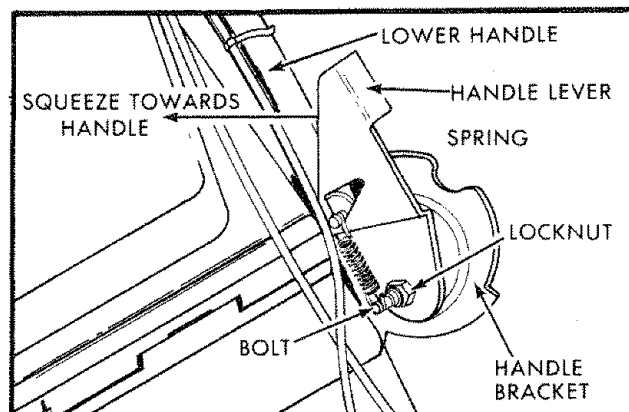

FIG. 3
- c. Remove the springs from mounting pins (See Fig. 3).
- d. Remove locknuts and bolts from handle brackets and remove handle levers (See Fig. 3).
- f. Reinstall bolts and locknuts (See Fig. 3).
- g. Put springs back on mounting pins (See Fig. 3).
6. To fold handle for storage, press the handle levers and move handle forward (Fig. 3).